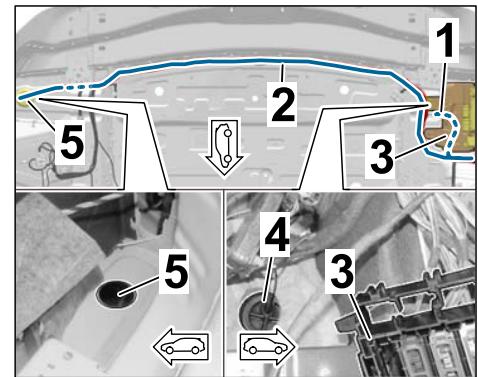

Figure 17
3.2.4 Rear end plate area and grommet/stopper for luggage compartment floor (⇒ *Figure 17*)
- Branch for exhaust flap (left) to grommet/stopper for luggage compartment floor, left (beneath fuse box in luggage compartment (left) → branch for exhaust flap on the right to rear closing panel → along rear closing panel (⇒ *Figure 17-top-*) → grommet/stopper for luggage compartment floor, right.